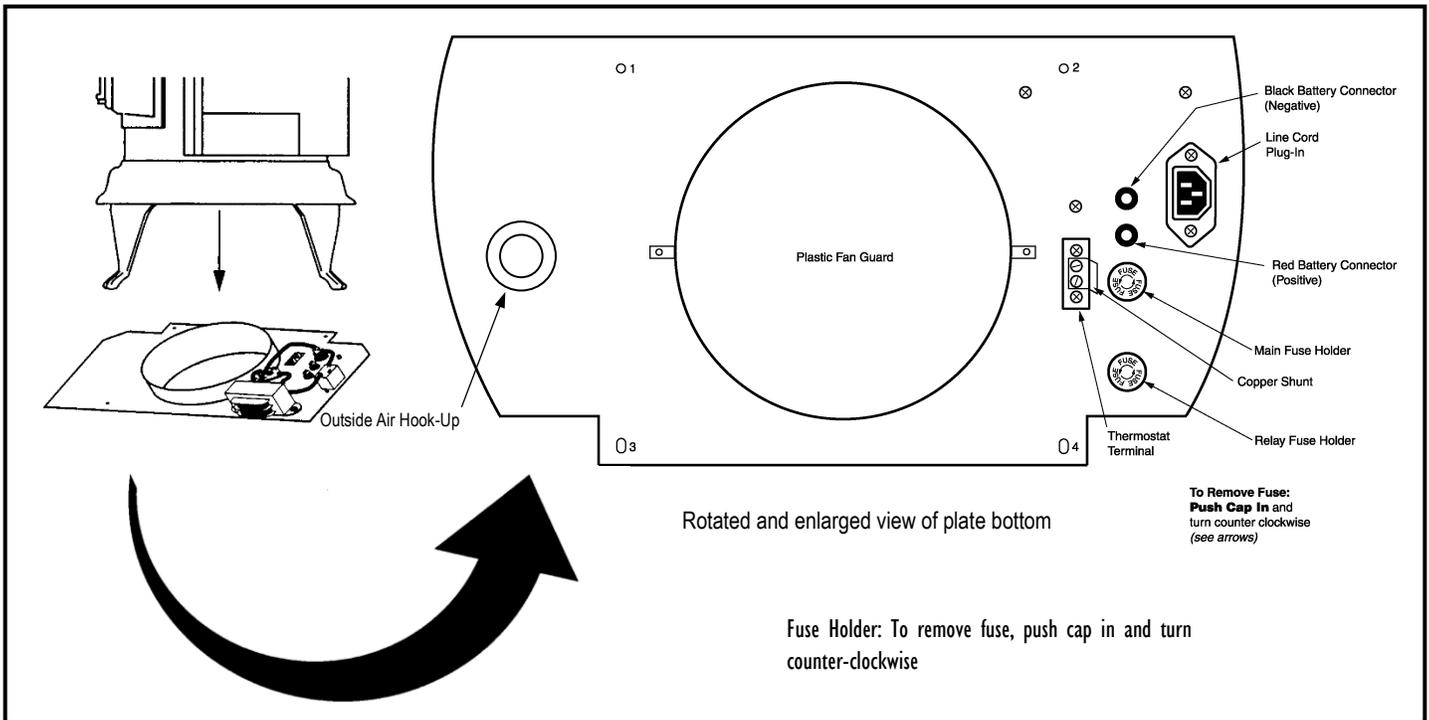

FIGURE 10
This unit has been approved for use with a **3" and 4" Type L Pellet Vent System**. On runs in excess of 10' and installations per Figure 10, the 4" pipe must be used.
3. Outside air required (see Figure 10).
A wall or remote thermostat can be hooked to run the Parlour 3000 E.I. automatically. The following is a step-by-step procedure for installing the optional thermostat. Note connection terminals on the bottom right side of the unit (see Figure 10). Use 18/2 thermostat wire for installation.
2. Hook up the thermostat wires to terminals (see Figure 10). Remember to remove copper shunt. disconnected. If a remote thermostat is used you will have to mount the "receiver" to the bottom of the stove with Velcro and then hook up receiver wires to the terminal (see Figure 10). Follow thermostat manufacturer's instructions.
thermostat terminals on the bottom of the stove. (See Figure 10) We recommend you run the heater on “High” for about 30 minutes to get the heat exchanger hot before turning it to “Low.” You will need to burn the heater for a few hours before deciding which setting is best for your particular needs.